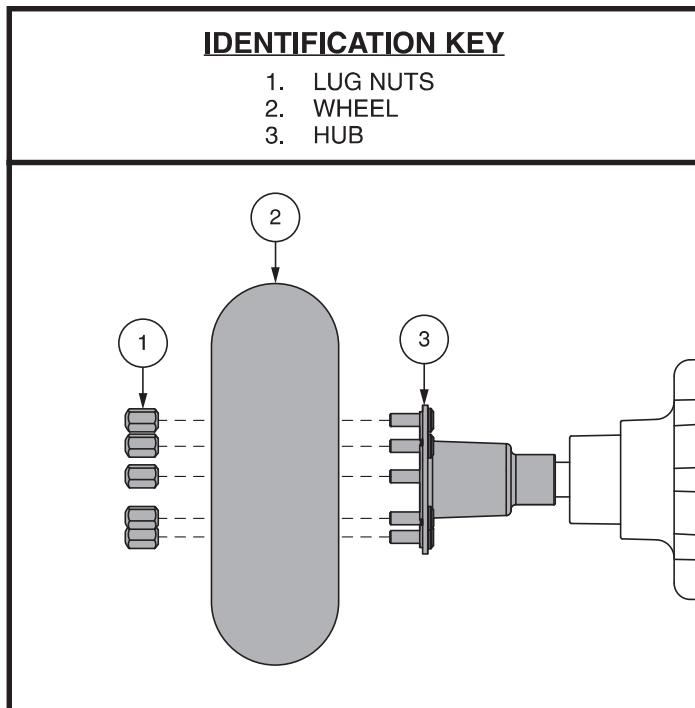

Figure 29. Wheel Replacement
4. Remove the lug nuts from the hub. See **figure 29**.